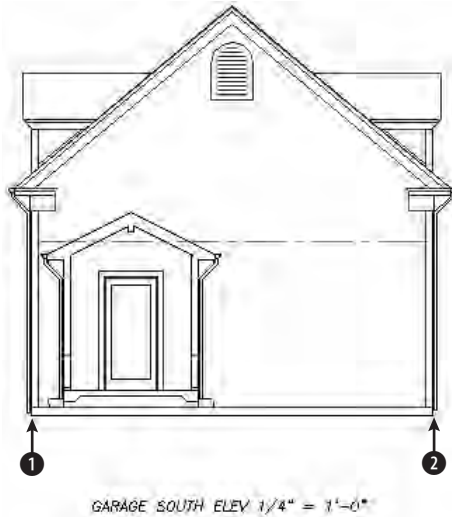

Figure 15-10: The garage elevation
2. Save the file as *ab15-01.dwg* in your AutoCAD Bible folder. This drawing is an elevation of a garage, as shown in Figure 15-10. ORTHO and OSNAP should be on. Set running object snaps for endpoint and intersection. The Dim layer is current. If the Dimension toolbar is not visible, right-click any toolbar and choose Dimension.
3. To see what the Standard dimension style looks like, choose Linear Dimension from the Dimension toolbar. At the Specify first extension line origin or <select object>: prompt, pick ❶ in Figure 15-10. At the Specify second extension line origin: prompt, pick ❷. At the Specify dimension line location or [Mtext/Text/Angle/Horizontal/Vertical/Rotated]: prompt, pick a location for the dimension line below the line you dimensioned. The arrows and text are so small you cannot even see them.
4. Use a Zoom Window to zoom in on ❶ and the left end of the dimension. Choose Zoom Previous from the Standard toolbar. Do another Zoom Window to zoom in on the center of the dimension to see the text. (You may have to use Zoom Window twice.) Choose Zoom Previous again. As you can see, this dimension needs some modification.